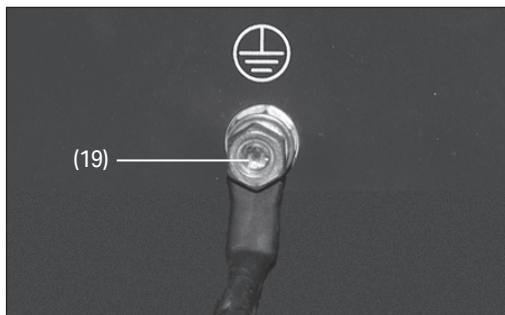

Fig. 7
6.3 Grounding the Generator (Fig.7)
- To ground the generator, tighten the earth terminal nut (19) against a grounding wire and attach the other end to a grounding rod (not supplied), which must be inserted into the ground.